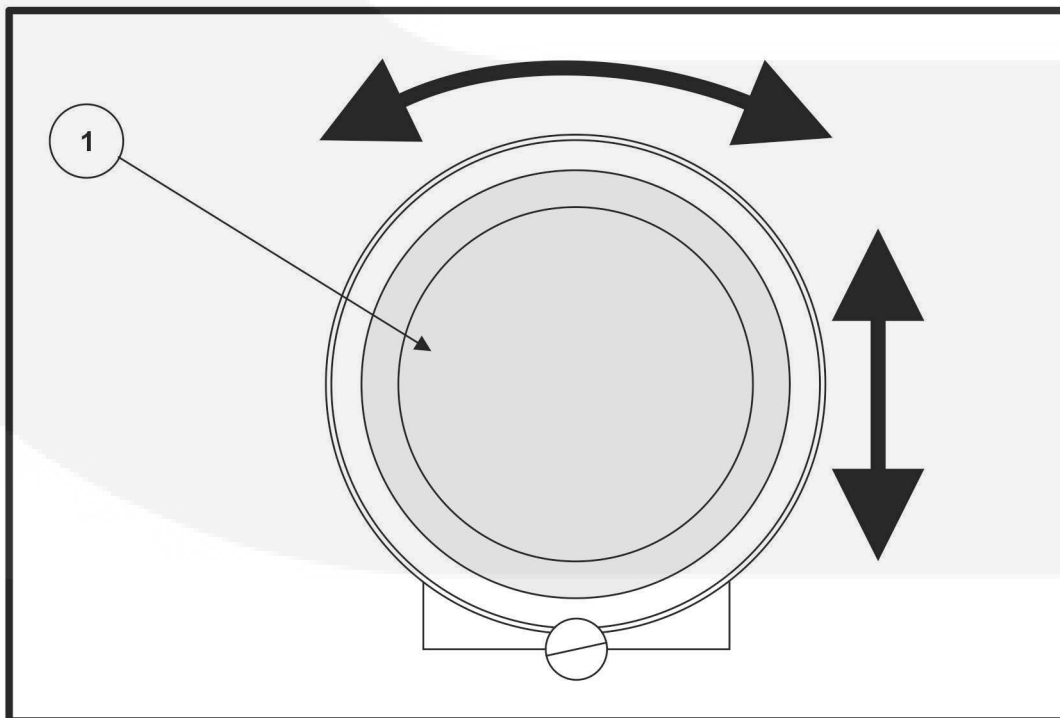

FIGURE 17. PRIMARY ELEMENT
4. Remove the primary element (1) Figure 17 on page 31 by waving the element in the direction of the arrows and pulling on the element to release it.